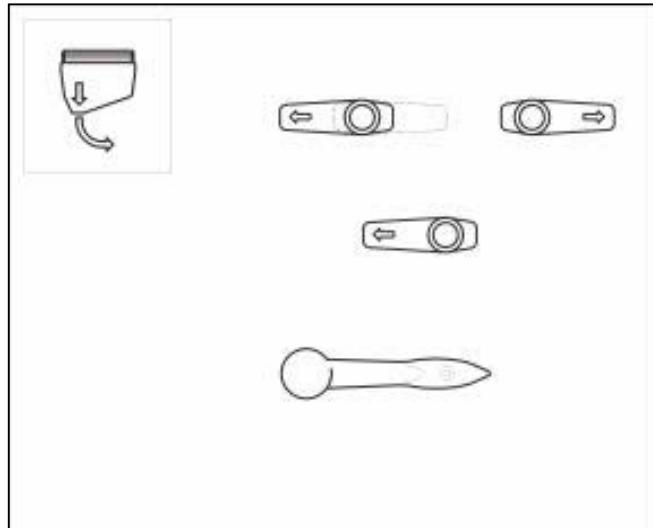

Fig. 7.8
- Swivel the 3-way tap according to Fig 7.8.